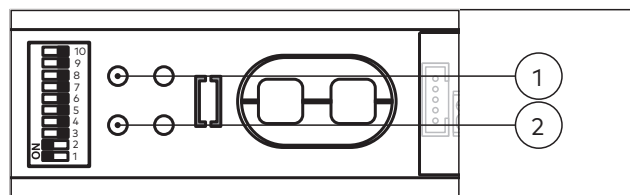

Fig. 28 Starting the learning cycle
- ▶ LED flashes green (Fig. 28) (1).
3. Press the reset button on the drive for more than 3 seconds (Fig. 28) (2).